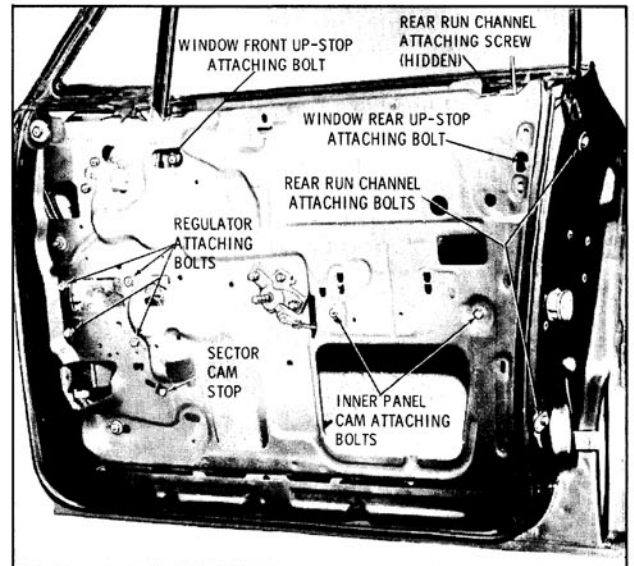

Fig. 16-45 Front Door Window Assembly
(legs) of the door window lower sash channel and are adjustable up or down. (Fig. 16-45)
4. Remove front door window inner panel cam. (Fig. 16-45)
NOTE: It may be necessary to remove the single screw securing the top section of door window rear run channel to door inner panel. This can be done to gain more freedom of movement at rear section of door window assembly. (Fig. 16-45)
1. To correct a condition where glass is "cocked" in glass run channels, loosen inner panel cam attaching screws, adjust cam up or down as required and retighten screws. (Fig. 16-45)
4. To adjust upper rear of window assembly in or out for proper contact with side roof rail weatherstrip, or to adjust rear of window assembly in or out at belt line, loosen rear glass run channel attaching bolts at lock pillar facing of door and screw at top of door inner panel. Position channel in or out as required and tighten screws. (Fig. 16-45)
5. To adjust limit of "up" travel of window assembly for proper contact with side roof rail weatherstrip, raise door window and through inner panel access holes, loosen door window front and rear stop assembly attaching bolts. Adjust stops up or down as required, then tighten attaching bolts. (Fig. 16-45)
- The up travel of the front door window is additionally controlled by the window regulator sector gear stop. (Fig. 16-45) This stop is adjustable up or down.
5. Remove window regulator attaching bolts and carefully remove regulator assembly from door through large access hole. (Fig. 16-45)